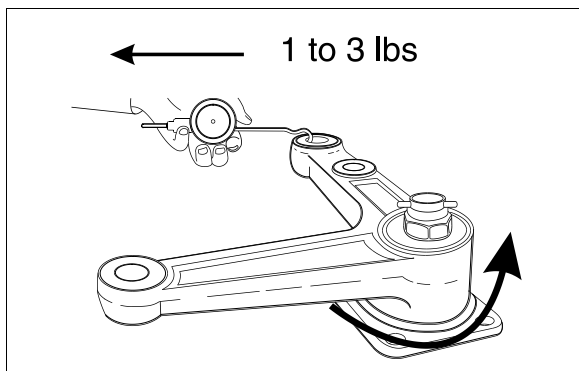

FIGURE 16: BELL CRANK 16045
11. Unscrew nut until bell crank or idler arm starts to turn with the application of 1 to 3 lbs force load as shown on Figure 16.